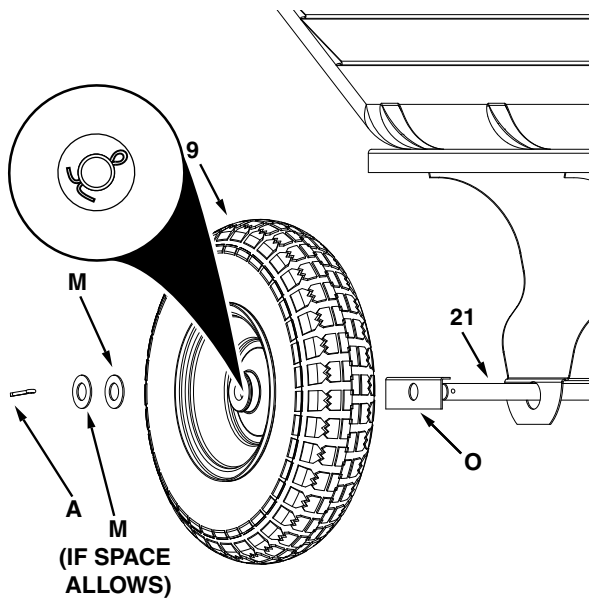

FIGURE 3
- Assemble an axle clip (O), a wheel (9) and a 5/8" washer (M) onto each end of the axle. Assemble a second 5/8" washer onto each end of the axle if space allows. Secure both wheels in place using two cotter pins (A) and bending the ends. See figure 3.